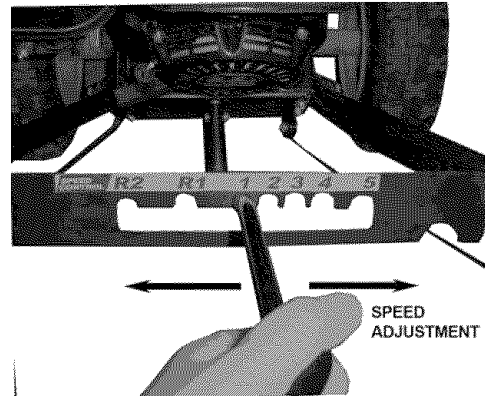

Figure 12- Adjusting Drive Speed and Direction
3. Move the drive speed control lever to the desired speed. There are seven speeds- five forward speeds and two reverse speeds. 1 is the slowest forward speed and 5 is the fastest forward speed. R1 is the slowest reverse speed and R2 is the fastest reverse speed (see figure 12). NOTE: There is no neutral drive setting.